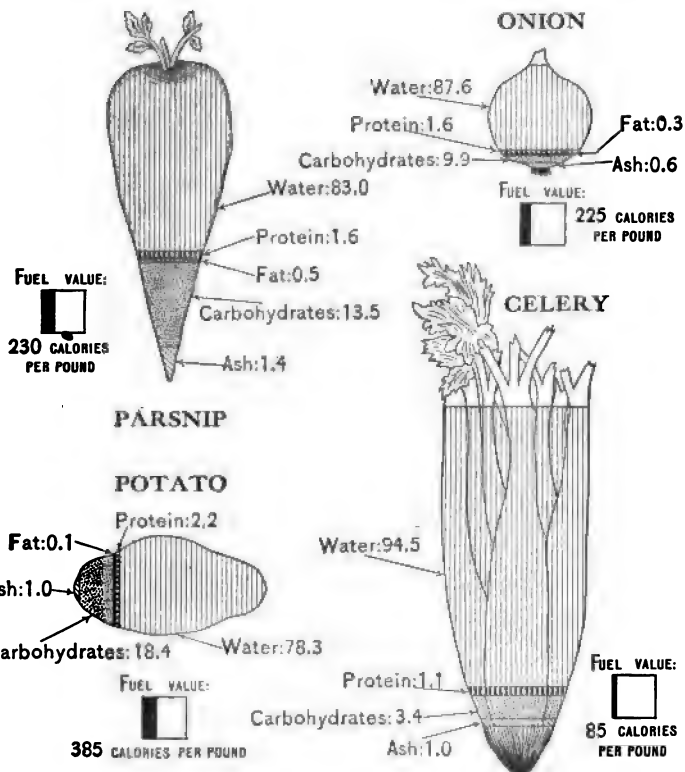

FIG. 25. — Composition of vegetables.
It comprises about one tenth of cereals (see figure 28), one seventh of meats (see figure 20), one fifth of dried beans and peas, and one fourth of cheese. (See figure 26.) Nuts vary greatly in composition, peanuts containing about one twelfth. Fruits and vegetables contain only small quantities of protein. (See figure 25.)
**Water.** Water forms a large proportion of nearly all foods. The amount varies greatly. Vegetables and fruits contain the largest proportion, ranging from eighty to ninety-five per cent. (See figure 25.) Nuts and dried foods, like peas, beans, wheat, and corn contain the smallest proportion, ranging from five to fifteen per cent. (See figure 28.) Meats contain a medium amount, ranging from fifty to seventy per cent. (See figure 20.)
**Fruits and vegetables.** (See figure 25.) In the foregoing discussion little mention has been made of fruits and vegetables. While these do not contain large proportions of solid nutrients and are not among the cheaper foods, they are